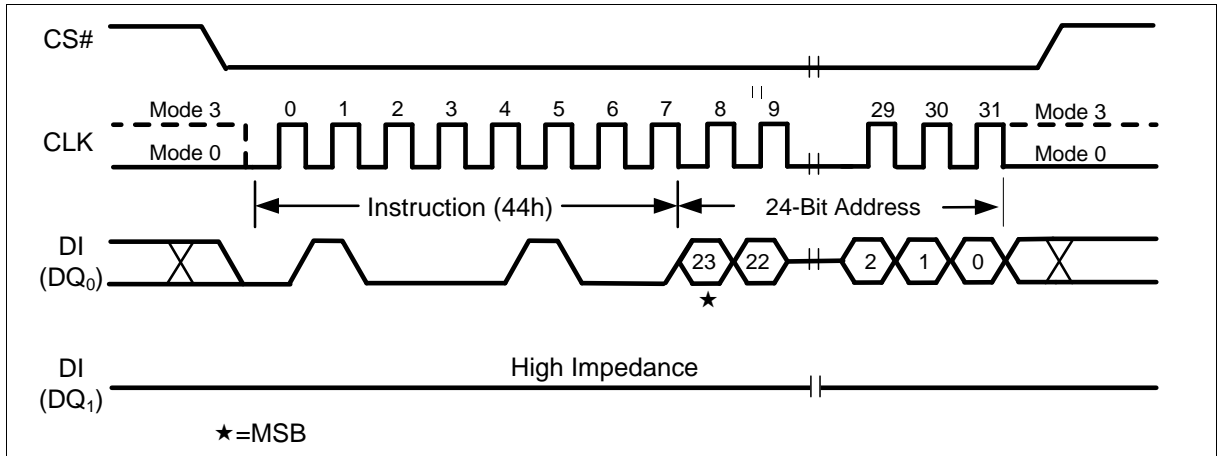

Figure 59 Erase Security Sectors Instruction (SPI Mode only)
The Erase Security Sector instruction sequence is shown in Figure 59. The CS# pin must be driven high after the eighth bit of the last byte has been latched. If this is not done the instruction will not be executed. After CS# is driven high, the self-timed Erase Security Sector operation will commence for a time duration of t_{SE} (See “12.6 AC Electrical Characteristics”). While the Erase Security Sector cycle is in progress, the Read Status Register instruction may still be accessed for checking the status of the WIP bit. The WIP bit is a 1 during the erase cycle and becomes a 0 when the cycle is finished and the device is ready to accept other instructions again. After the Erase Security Sector cycle has finished the Write Enable Latch (WEL) bit in the Status Register is cleared to 0. The Security Sector Lock Bit (LB) in the Status Register-2 can be used to OTP protect the Security Sectors. Once the LB bit is set to 1, the Security Sector will be permanently locked, Erase Security Sector instruction will be ignored.